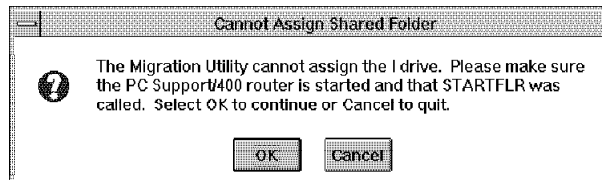

Figure 78. Migration Tool - Cannot Assign I: Drive Message
9. At this point, the migration tool checks to see if the shared folders function has been started. If it has not, you receive the message shown in Figure 78.